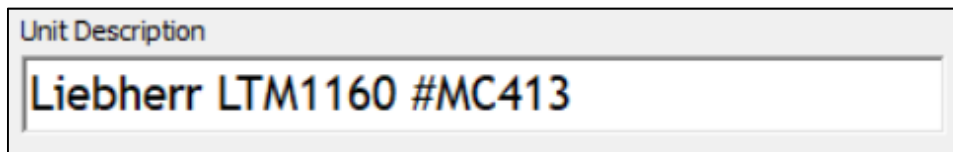

Figure 36
- Click on the Unit Description box (**Figure 36**)